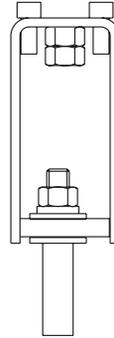

Figure 4-34: Threaded Rod and Foot Assembly
24. Torque jam nut on the bottom of the threaded rod (see Figure 4-34).